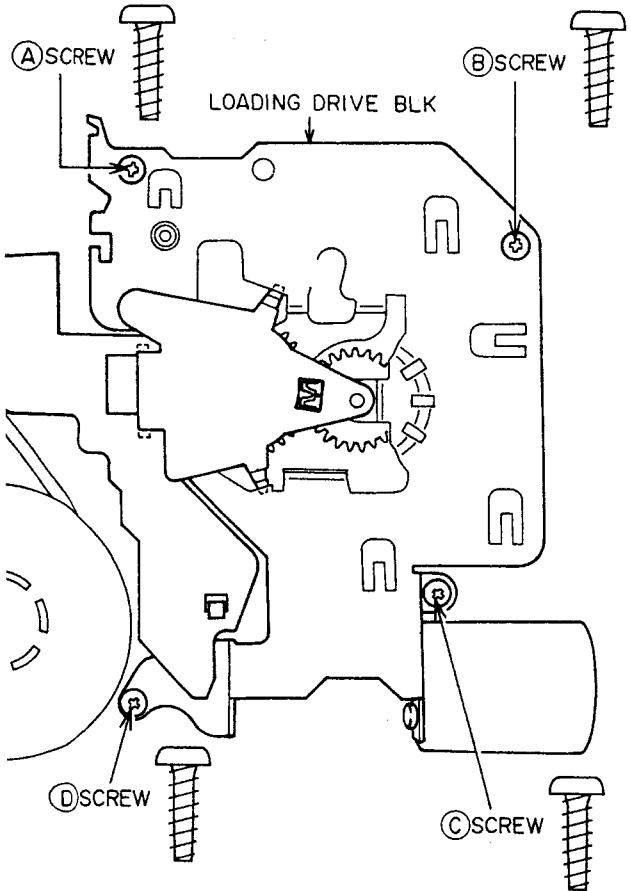

Fig. 3-7
- 2) Unhook the five wires from each tab. Two wires from the SENSOR (S), two wires from the LOADING MOTOR and one wire from the REC SAFETY SWITCH.
- 3) Remove the Ⓐ, Ⓑ, Ⓒ and Ⓓ screws, then remove the LOADING DRIVE BLK as shown in Fig. 3-7.